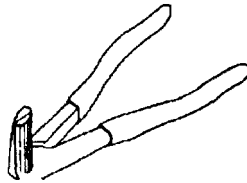

Figure 3-14
- (g) Prior to installing cable clamps, spread cable clamp (Item 14, Appx. B) as necessary to fit battery posts with battery clamp spreader (Figure 3-14).